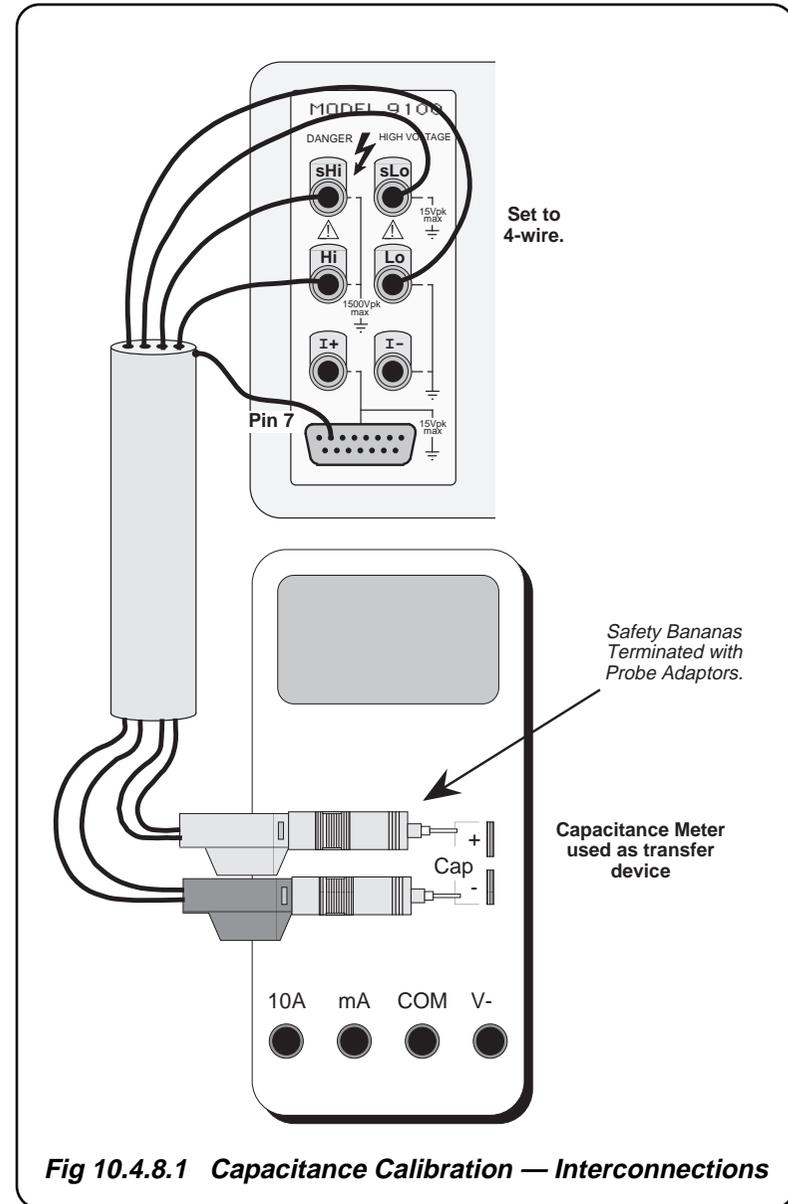

Fig 10.4.8.1 Capacitance Calibration — Interconnections
- Connections** Ensure that the 9100 is connected to the capacitance meter as shown in *Fig. 10.4.8.1*, and that both instruments are powered on and warmed up.